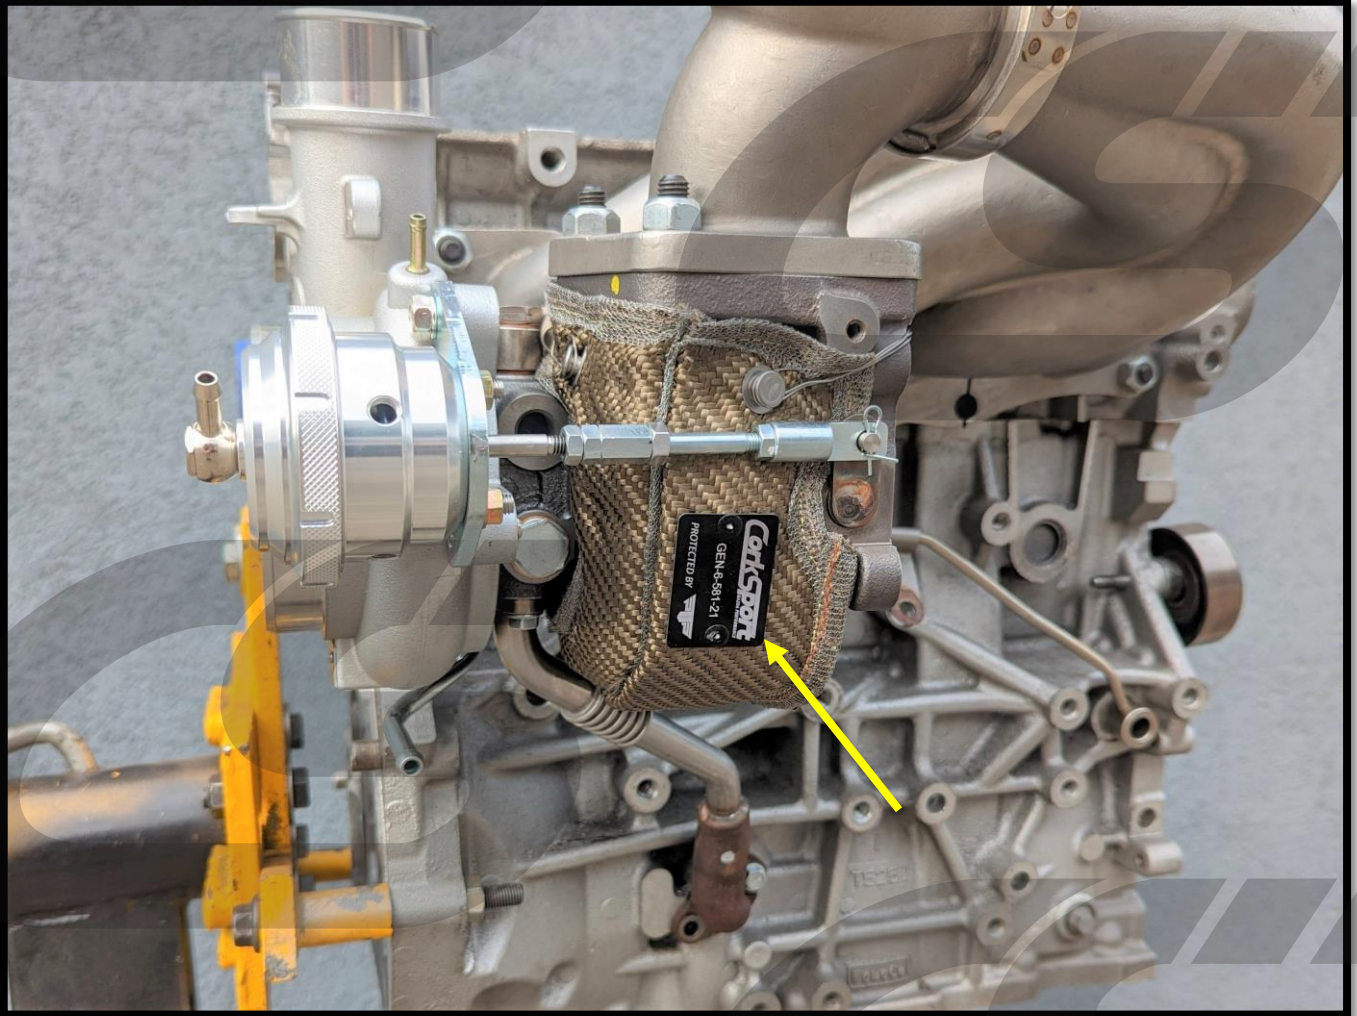

Figure 2a
- a) Install the turbo blanket in the configuration shown in **Figure 2a** and in the pictures on the following pages. The logo plate will be orientated as shown when properly installed.